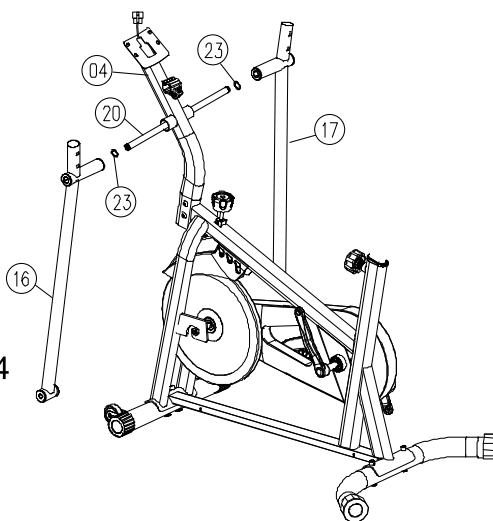

Figure 4
4. Insert the Swing Lever Central Shaft (Part 20) through the Front Upright Column (Part 04). Fit one $\Phi 20 \times \Phi 16 \times 0.5T$ wave washer (Part 23) to each side of the shaft, then mount the Left Swing Lever (Part 16) and Right Swing Lever (Part 17) onto the central shaft, as shown in Figure 4.